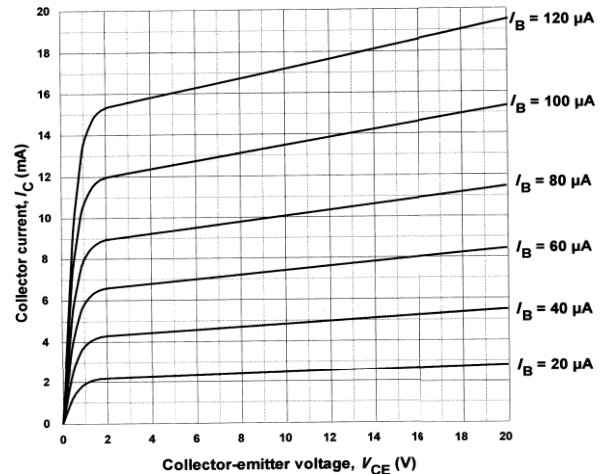

Figure 7.55 See Question 7.8
- 7.8 The output characteristics of a bipolar transistor are shown in Fig. 7.55. If this transistor is used in an amplifier circuit operating from a 12 V supply with a base bias current of 60 μA and a load resistor of 1 $\text{k}\Omega$, determine the quiescent values